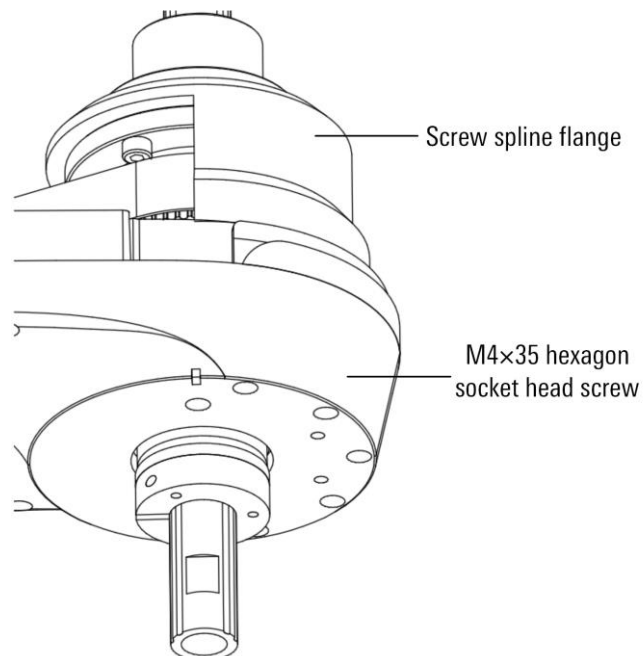
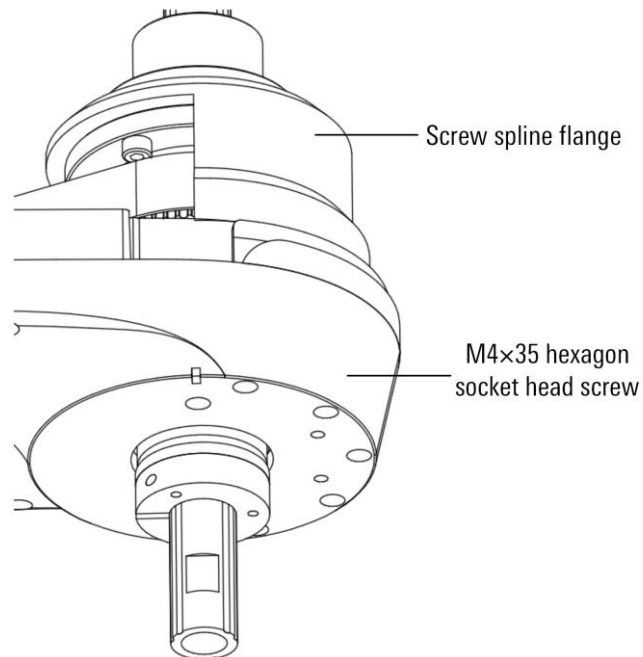

Figure 8-9 Schematic diagram of disassembling screw spline flange
Figure 8-15 Schematic diagram of disassembling screw spline flange
Step6. Use an Allen wrench to remove the 7 M4×35 hexagon socket head screws for mounting the screw spline flange from the lower end of the forearm, and move the screw spline flange upward, as shown in Figure 8-9.
Step5. Use an Allen wrench to remove the five M3×35 hexagon socket head screws for installing the screw spline flange from the lower end of the forearm, move the screw spline flange upward, and remove the fixed screw spline method from the lower end of the forearm. The five M3 screws used for the flange are shown in Figure 8-9, and the screw spline flange is removed upward, as shown in Figure 8-15.